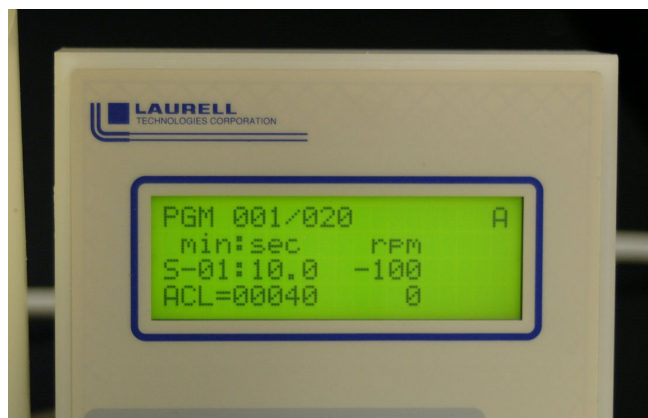

Figure 3-15
- **SPIN SPEED:** The HPD2 spin speed is programmable with both positive and negative numbers. Positive numbers >+0001 will cause the motor to rotate counter clockwise and negative values <-0001 will cause clockwise rotation. Negative values can be entered by pressing the down arrow value key through 0 value. See figure 3-15